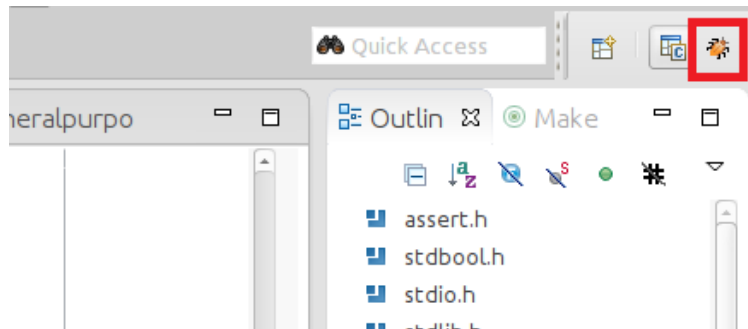

Figure 8-37. Switching to the DS-5 Debug Perspective
22. Switch to the *DS-5 Debug* perspective, as shown in Figure 8-37.